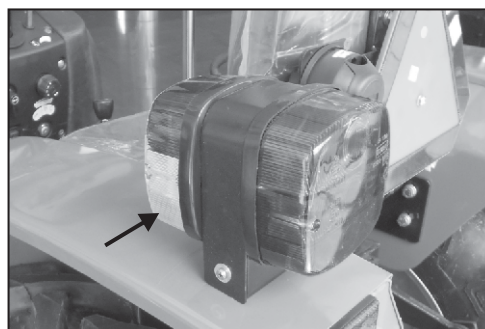

Fig. 3.5b
b. **Tail Lights:** Tail lights are shown in figure 3.5b.